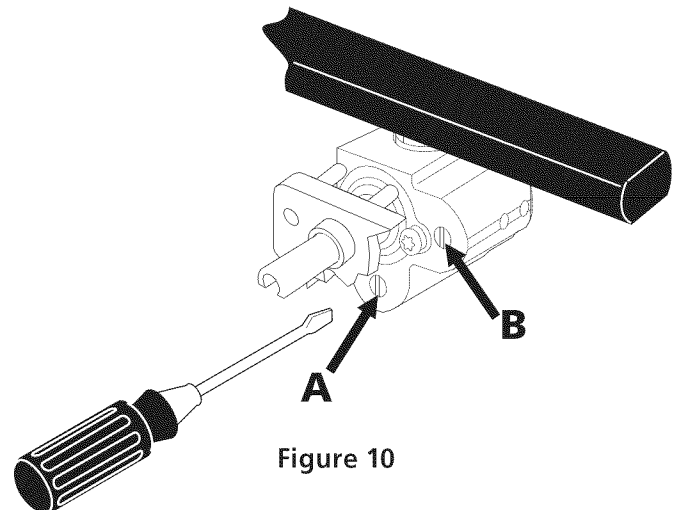

Figure 10
5. Adjust the "LOW" Setting of the Dual Burner (see Figure 8) on the Surface Burner Valve (Figure 10):
- The inner portion of the dual burner flame size can be increased or decreased by turning screw **A** (see Figure 10). Use screw **B** to adjust the flame size of the outer portion of the dual burner. Turn counterclockwise the screw to increase flame size. Turn clockwise the screw to decrease flame size. Adjust flame until you can quickly turn knob from LITE to LOWEST POSITION without extinguishing the flame. Flame should be as small as possible without going out.